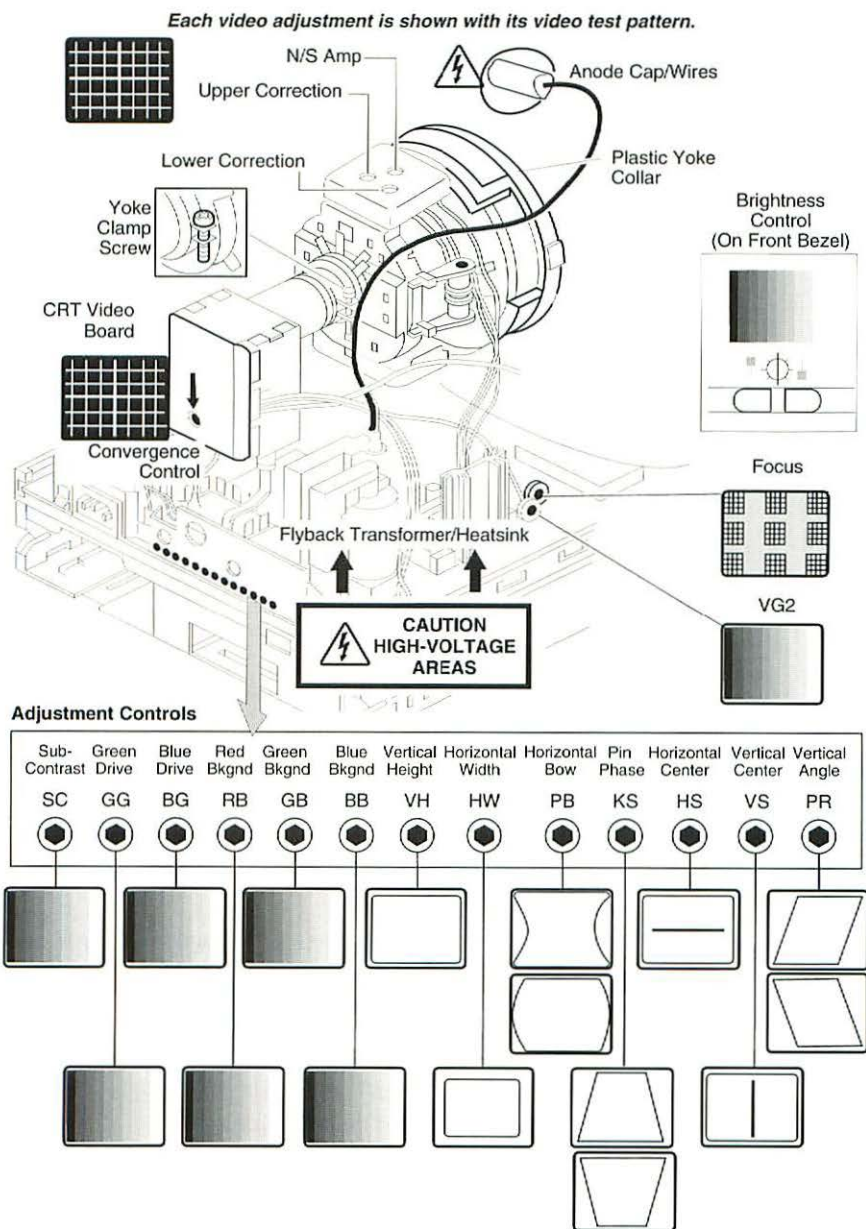

Figure 3 Video Adjustments
Using a hex-head plastic adjustment tool, adjust the vertical and horizontal controls (Figure 3) until the raster is centered in the display area.
1. Adjust the vertical height control (see Figure 3) until the raster is 4.9 inches ($\pm 1/16$ inch) or 124.5 mm (± 1.5 mm). Verify this height.
2. Adjust the horizontal width control (see Figure 3) until the raster is 6.7 inches ($\pm 1/16$ inch) or 168.5 mm (± 1.5 mm).
Using MacTest Pro, display the Focus test pattern. Adjust the focus control until the Focus test pattern is as clear as possible (see Figure 3).
4. Set the red, green, and blue background controls (see Figure 3) to the full counterclockwise positions.
3. If necessary, adjust the blue and green drive controls (Figure 3) until there is no predominant color in the four brightest bars.
3. Adjust the convergence control (see Figure 3) on the CRT video board for best overall convergence.
4. Adjust the N/S amp control (see Figure 3) for best convergence of horizontal lines at the top and bottom of the screen.
4. To determine which control to adjust, compare the display with the distortions shown in Figure 3.
5. Using a hex-head plastic adjustment tool, adjust the appropriate control (see Figure 3 for control locations).
- Pin phase (KS)
- Vertical angle (PR)
- Horizontal bow (PB)